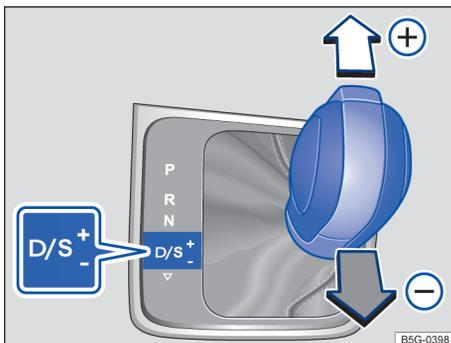

Fig. 102 Selector lever in Tiptronic position.
- Briefly push the selector lever forward ⊕ to upshift into a higher gear or pull it backward ⊖ to downshift into a lower gear → fig. 102.